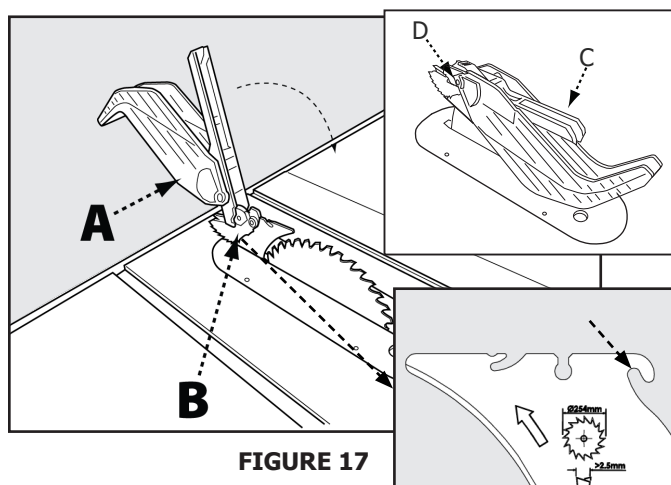

FIGURE 17
1. While holding the blade guard assembly (A) in a vertical position, hook the locating pin (B) at the back end of the blade guard assembly into the slot at the back edge of the riving knife.
2. Rotate the blade guard assembly toward the front of the saw until the metal portion (C) of the blade guard assembly is parallel to the table as shown in Figure 17.
3. While holding down on the front of the metal portion of the guard (C) press the blade guard lock lever (D) down until it snaps into the locked position. Check to make sure the guard is locked onto the riving knife by pulling on the guard. If the guard is not locked, the blade guard lock lever will flip up to the unlocked position.